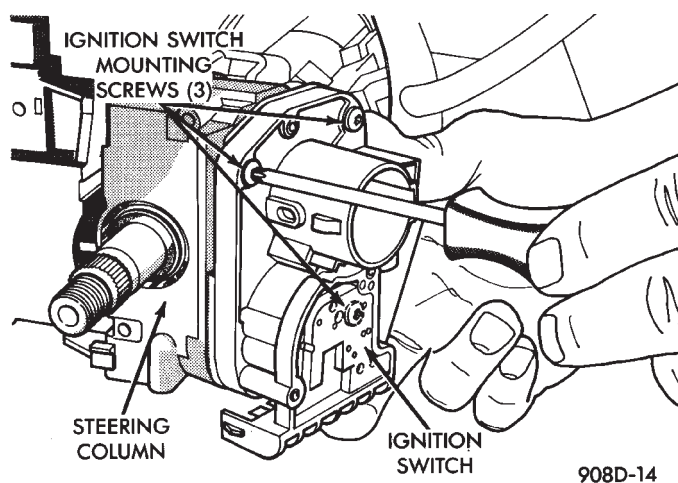

Fig. 7 Ignition Switch Screw Removal
- (1) Disconnect battery negative cable.
- (2) Tilt column only—remove tilt lever (counterclockwise).
- (3) Carefully remove both upper and lower steering column covers. Requires removal of 3 screws (Torx T-20).
- (4) Remove 3 ignition switch mounting screws (tamper proof Torx bit Snap-On TTXR20B2 or equivalent required) (Fig. 7).